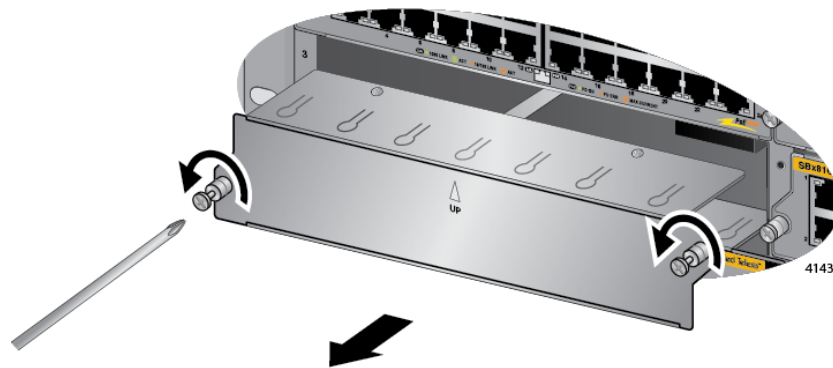

Figure 87. Removing a Blank Slot Cover
2. If the selected slot for the line card is covered with a blank slot cover, use a #2 Phillips-head screwdriver to loosen the two captive screws on the cover and remove it from the chassis. Refer to Figure 87.